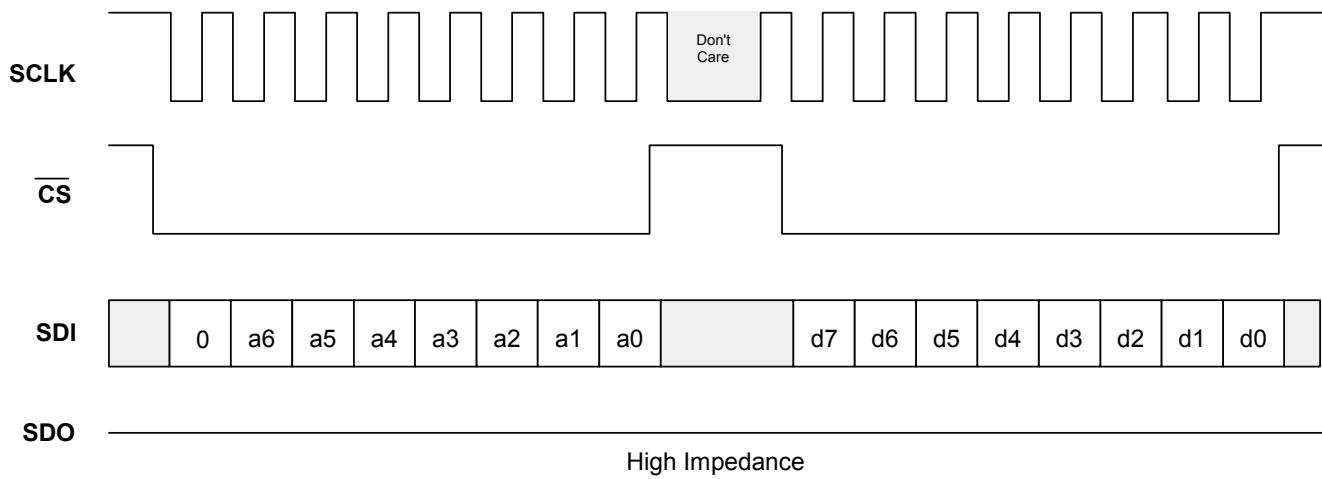

Figure 26. Serial Write 8-Bit Mode
The control interface to the ProSLIC is a 4-wire interface modeled after commonly-available micro-controller and serial peripheral devices. The interface consists of a clock (SCLK), chip select (CS), serial data input (SDI), and serial data output (SDO). Data is transferred a byte at a time with each register access consisting of a pair of byte transfers. Figures 26 and 27 illustrate read and write operation in the SPI bus.
The first byte of the pair is the command/address byte. The MSB of this byte indicates a register read when 1 and a register write when 0. The remaining seven bits of the command/address byte indicate the address of the register to be accessed. The second byte of the pair is the data byte. Because the falling edge of CS provides resynchronization of the SPI state machine in the event of a framing error, it is recommended (but not required) that CS be taken high between byte transfers as shown in Figures 26 and 27.